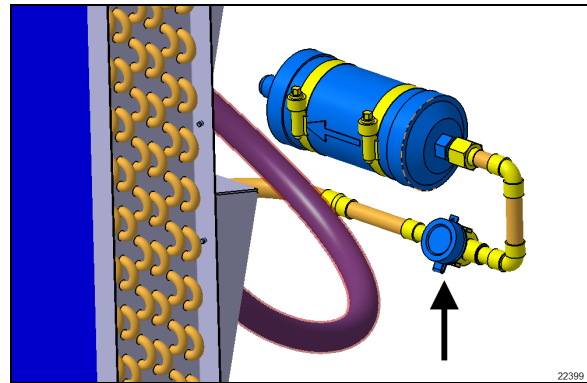

FIGURE 99: MOISTURE INDICATOR SIGHT GLASS
- 2- With the AC on for at least 10 minutes, the moisture indicator sight glass (FIGURE 99) should be clear, not milky, without bubbles in the stream of refrigerant. Bubbles in the moisture indicator sight glass are sign of refrigerant low charge. The filter-dryer nearby should be near constant temperature, less than 5°F differential between inlet and outlet. A partially blocked filter will make some flash gas and give a "milky" sight glass.